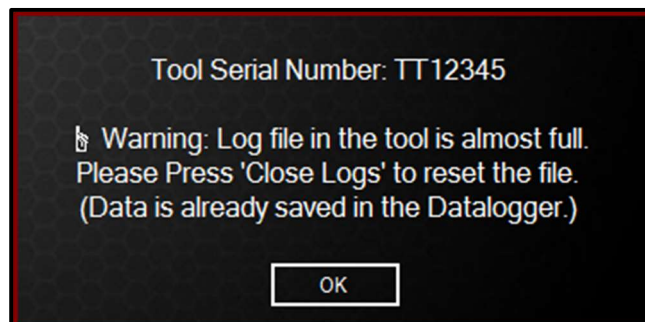

Figure 5.3-3: Logs Almost Full
4. If the number of log records that have been downloaded is approaching the capacity of the Transducer (360 records), you will be prompted to close the log file (Figure 5.3-3) (see Section 5.4 – Deleting (Closing) Data Logs).